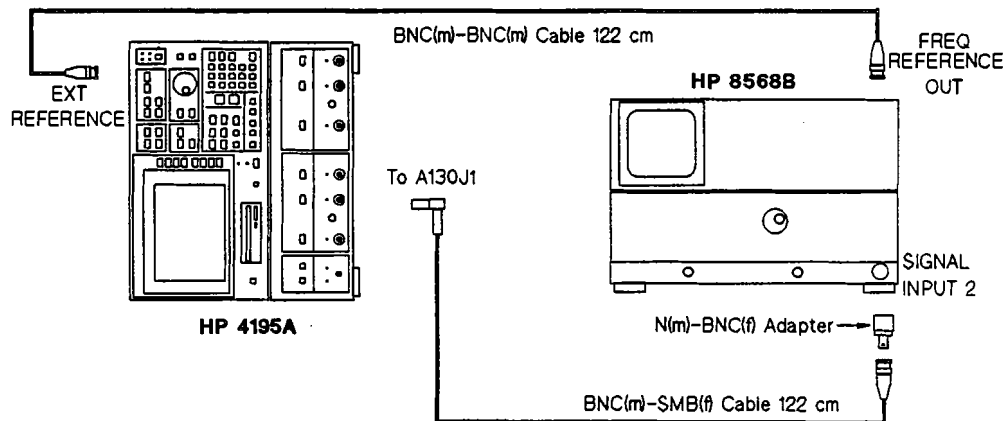
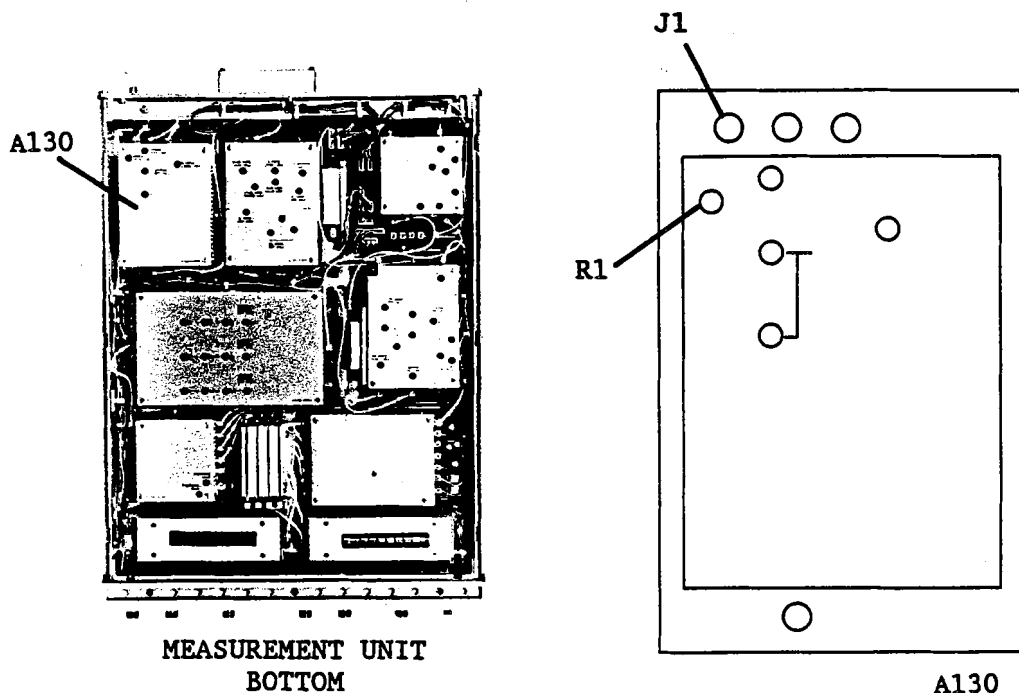
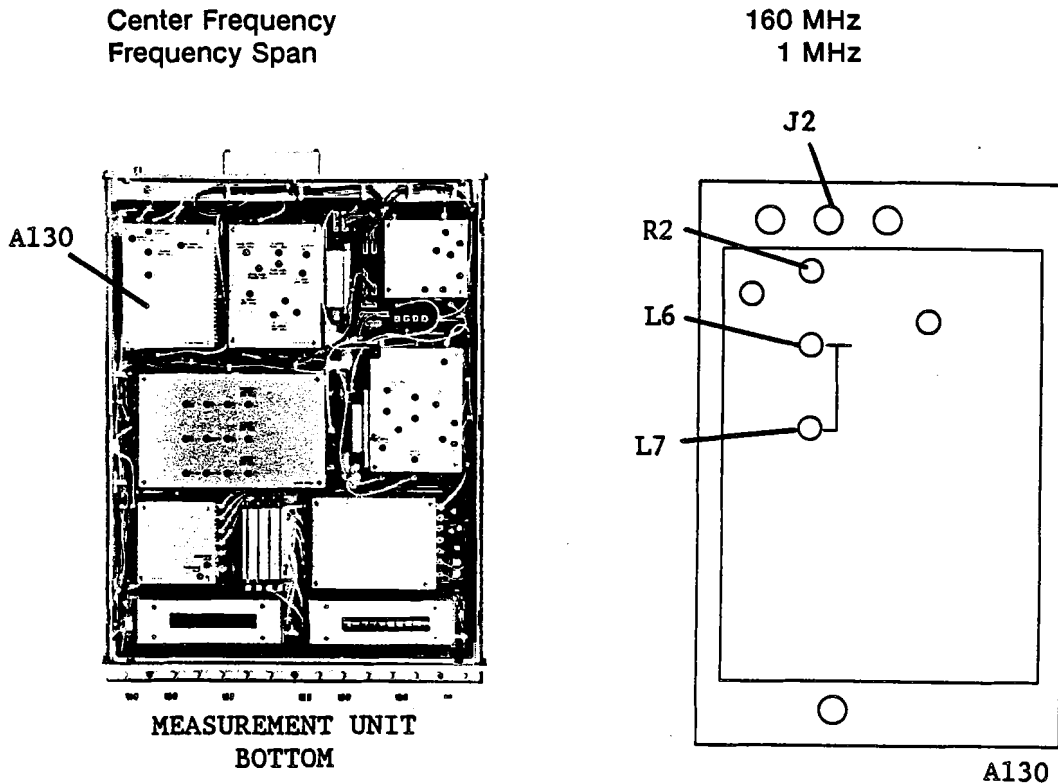

Figure 3-46. Reference Frequency Converter Adjustment Setup
Figure 3-47. 80 MHz Reference Signal Level Adjustment Locations
Figure 3-48. 160 MHz Band Pass Filter Adjustment Locations
1. Connect the equipment as shown in Figure 3-46. See Figure 3-47 for the location of A130J1.
4. Adjust **A130R1 (80 MHz LEVEL ADJ)** until the 80 MHz signal level is  $-10 \text{ dBm} \pm 0.5 \text{ dB}$ . See Figure 3-47 for the location of A130R1.
1. Connect the equipment as shown in Figure 3-46, paragraph 3-13-1. Connect the Spectrum Analyzer input cable to A130J2 instead of A130J1. See Figure 3-48 for the location of A130J2.